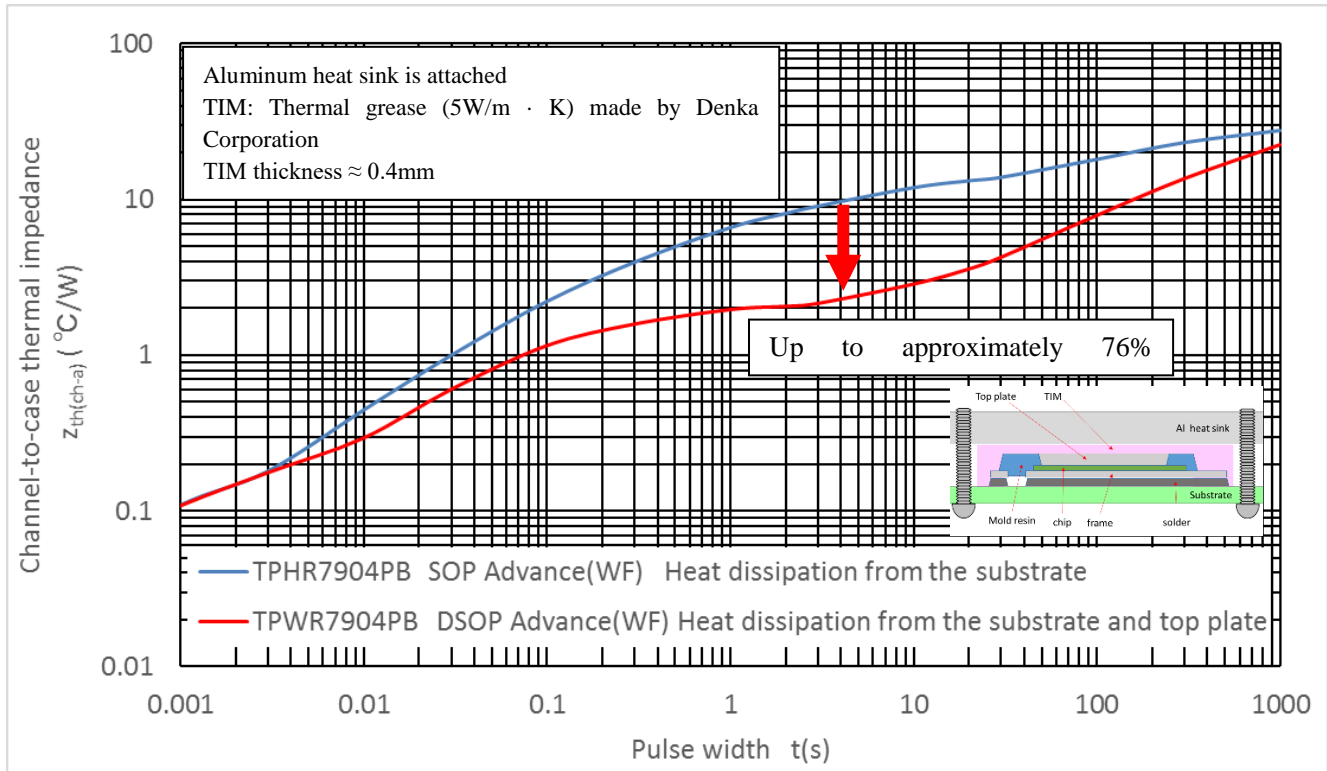

Fig. 3.7 Improvement of Thermal Impedance When Top Plate is Used and a Heat Sink is Attached
Fig. 3.7 shows that by attaching the heat sink to the top plate, the DSOP Advance (WF) package has a better thermal impedance as compared to SOP Advance (WF) package that has no top plate.